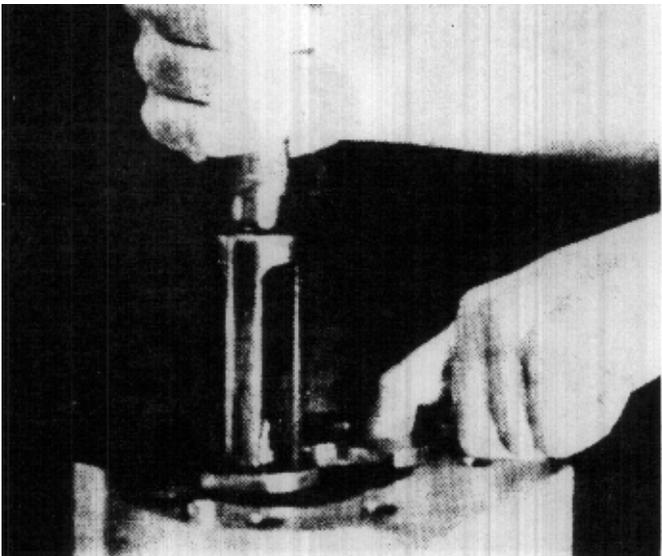

FIGURE 82
11. To remove the bottom pressure plate (9) (13, in SPM25) from the motor body, use an adjustable sleeve bearing puller. (A puller of this type is listed in McMaster and Carr's catalog under part number 6354N14). Insert the puller in the pressure plate bore. With a very light rocking motion applied to the puller handle, unseat the plate. Lift it straight up and out of the motor body. Use extreme care in the removal of this plate. Do not attempt to pry or force it. (Fig. 82)